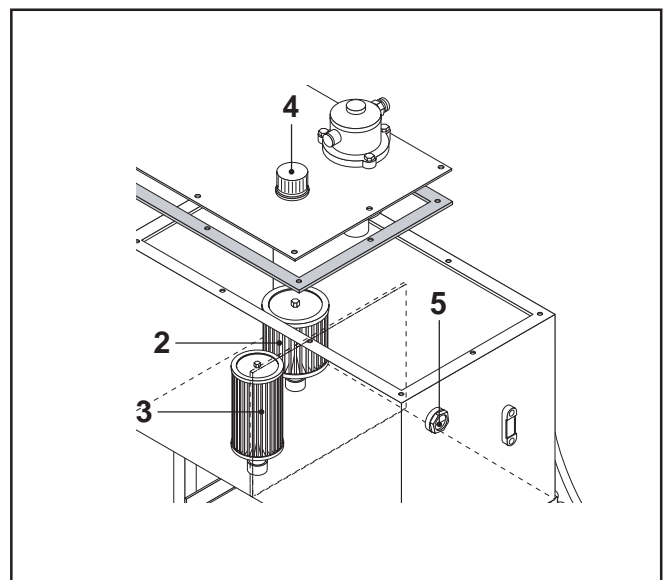

FIG.58
- Loosen and replace the internal filters (FIG.58-REF.2/3), close the tank checking the gasket's state (replace if required).
- Open the cap (FIG.58-REF.4) and fill with 75 litres of TOTAL AZOLLA HZS 46 oil.
- Always check the level on the sight glass (FIG.58-REF.5).
- Start the engine and make the hydraulic pump turn for a few minutes empty, checking the oil level through the sight glass (FIG.58-REF.5); top-up if level is below the sight glass.